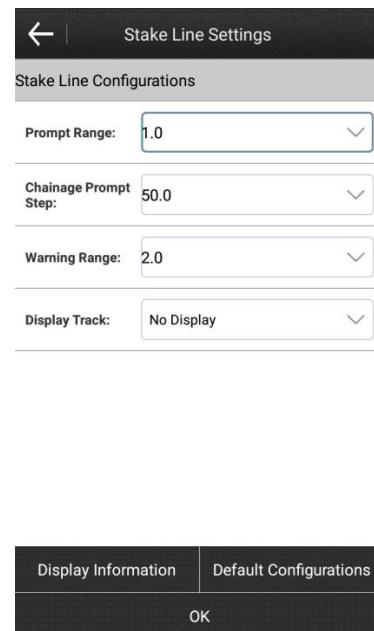

Figure 5-19
- ⌚ : Stake line settings. You can set the prompt range, mileage prompt step, warning range and display track in stake line settings interface shown as figure 5-19. When you click “default configurations”, the stake line configurations will be restored to default configurations. When you click “display information”, you can select the displayed information in the status bar at the bottom of the screen.